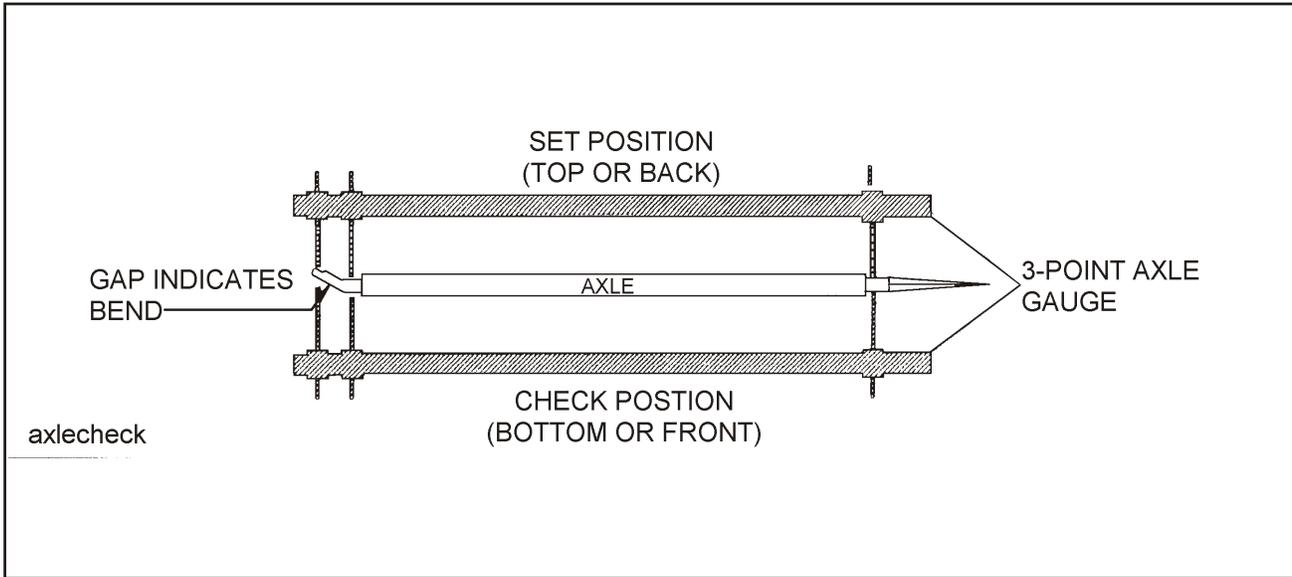

FIGURE 4-5 CHECKING AXLE FOR BEND
- b. Place a 3-point axle gauge against the front side of the axle, and adjust each axle gauge point to the axle. (Double point end against the inner and outer wheel bearing surfaces of the spindle being checked and the other point on the inner bearing surface on the other spindle.) (See Figure 4-5).
- c. Move the axle gauge and place against the back side of the axle. If either of the points of double point end fails to touch the axle surface, a bent spindle is evident. A point gap of .015" or more is considered excessive tire “toe” and the axle must be replaced (See Figure 4-5).